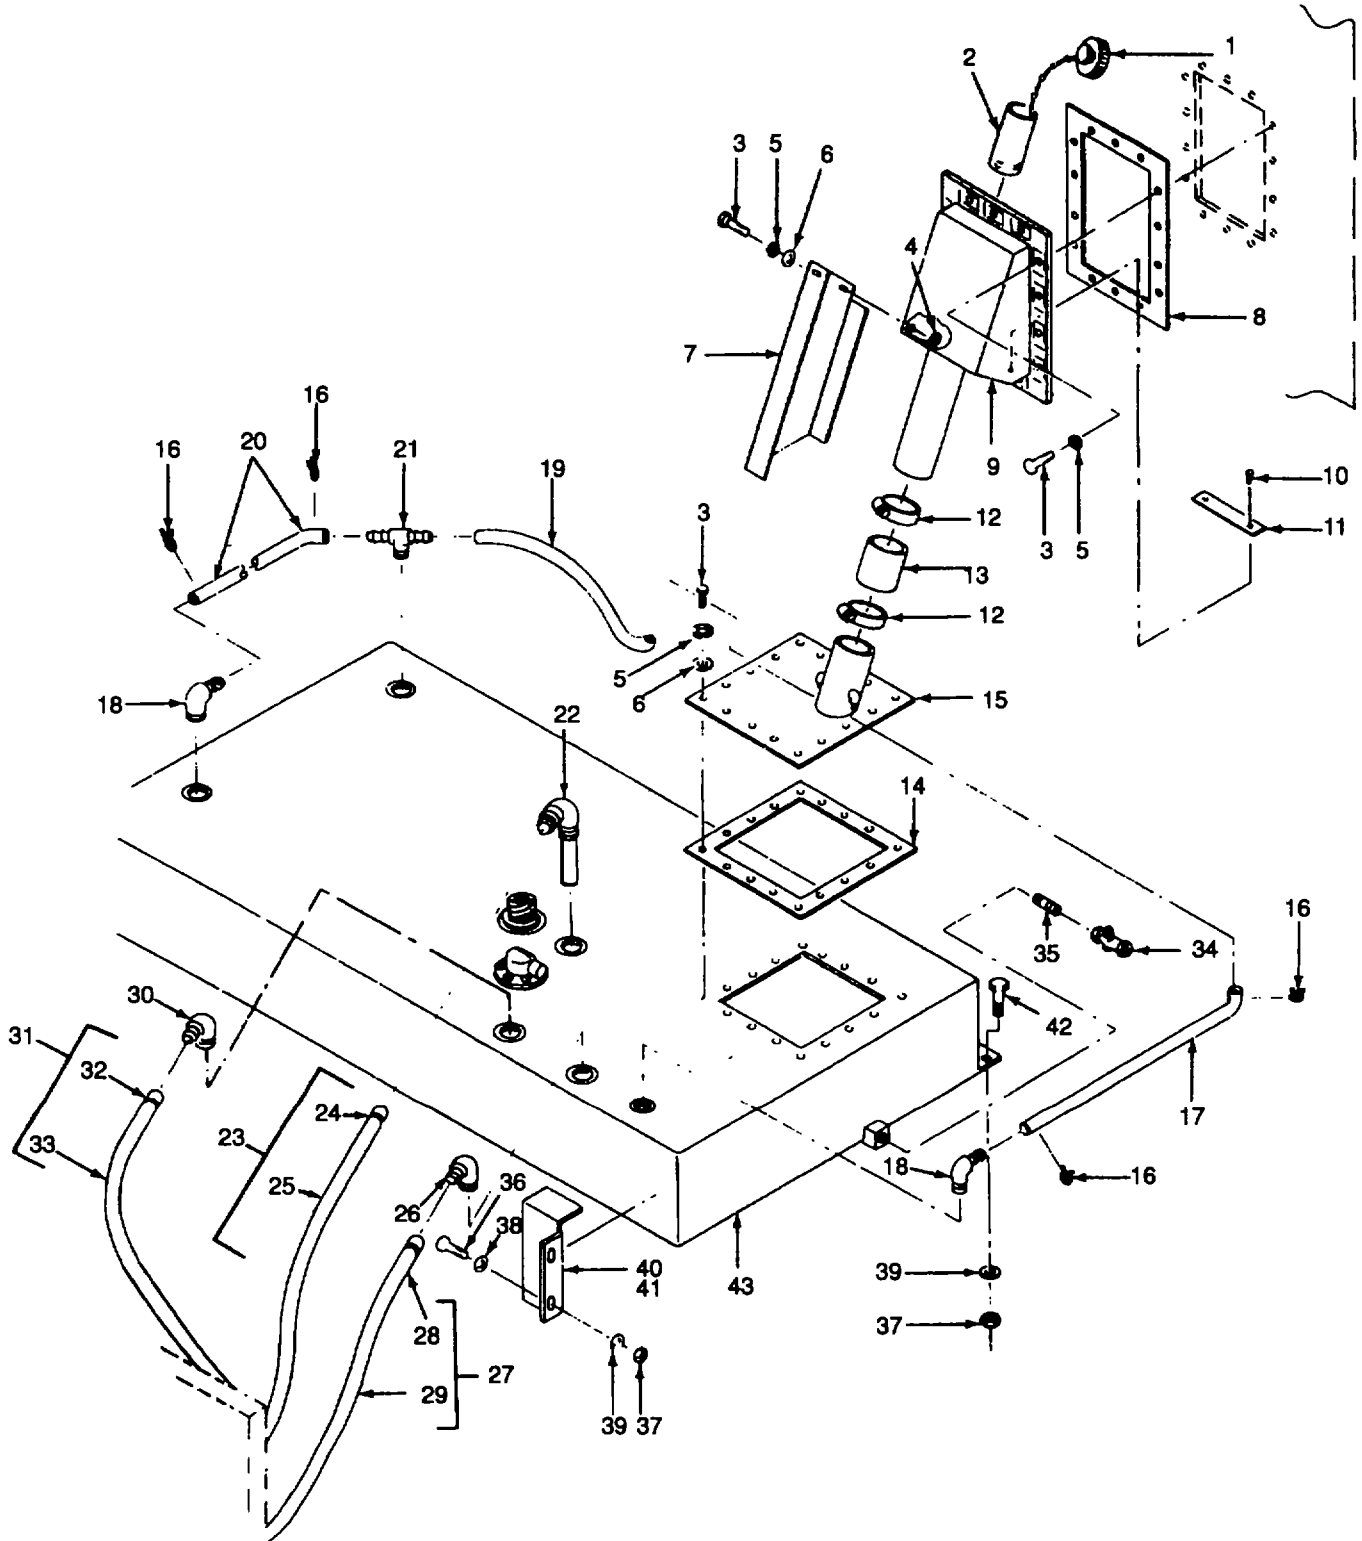

Figure 2-16. Fuel Tank, Exploded View (Sheet 1 of 2)
- (1) Turn FUEL PUMP switch S8 on generator control cabinet C to OFF position.
- (2) Open the fuel drain valve (34, Figure 2-16), and drain fuel into dean suitable container.